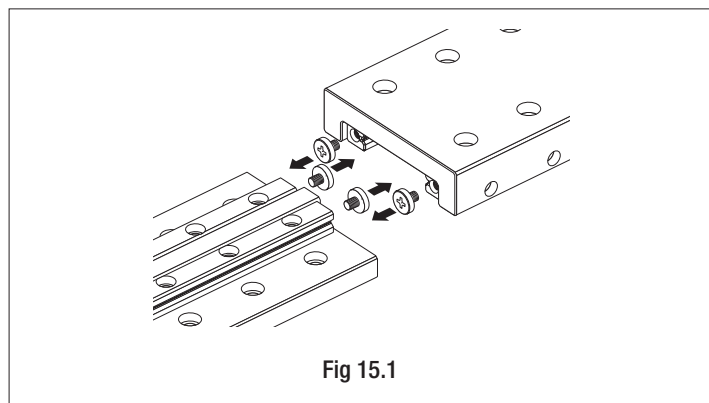

Fig 15.1
- Remove end screws from the way at table side and way at the bed-side in the side to which the cylindrical rollers with a retainer are inserted. (See Fig.15.1)